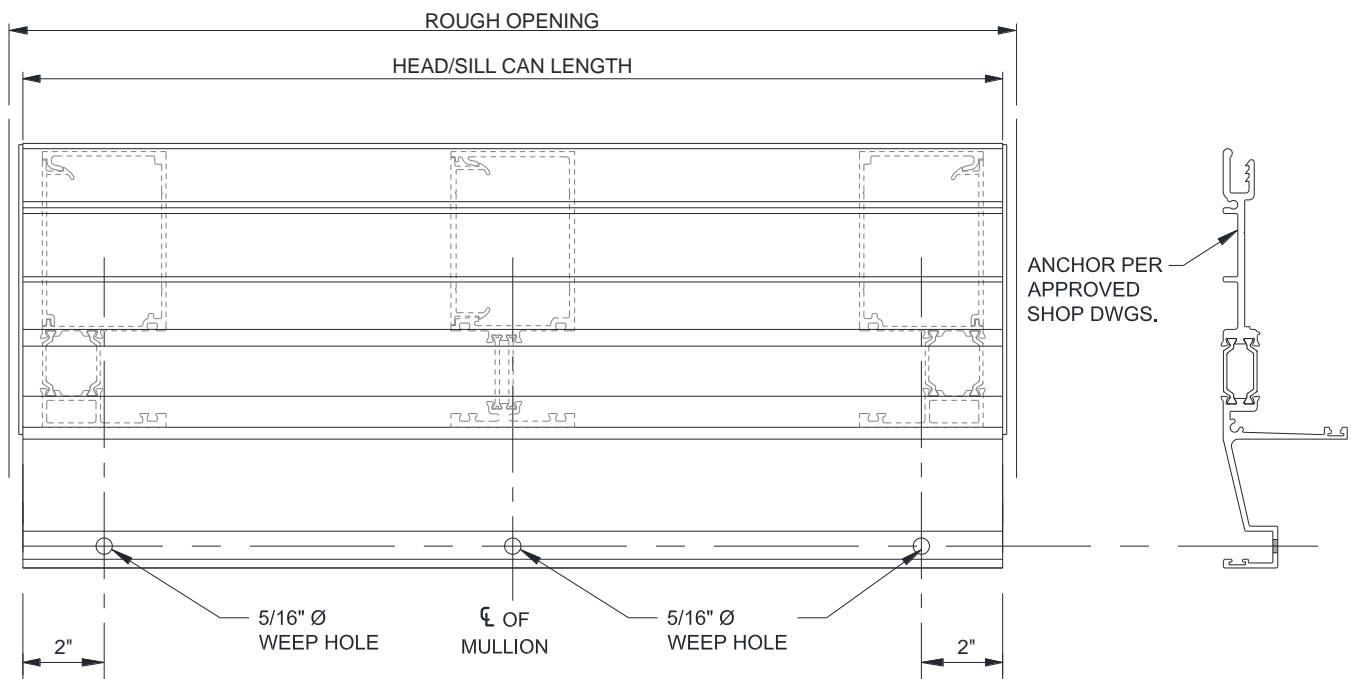

Figure 16: RT510 Head Receptor
7.2 If using the **RT510** Head Receptor, drill 5/16" Ø weep holes in the "V" groove at the front of the Head Receptor at the center of each Vertical and the midpoint of each D.L.O. between Verticals. See *Figure 16*.